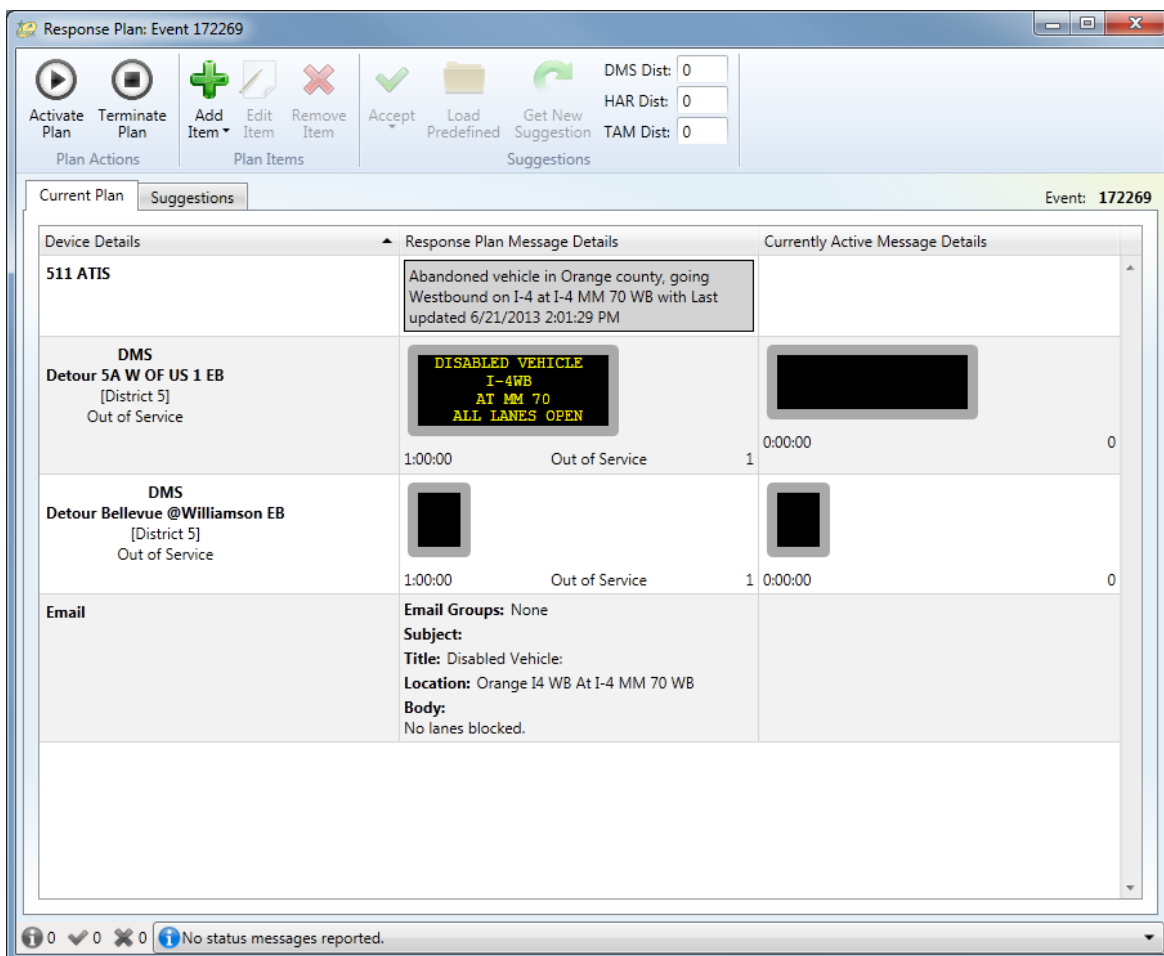

Figure 3-186 – Response Screen
- Once the plan is acceptable, the **Accept** option is selected and the dialog shown in Figure 3-186 is displayed.